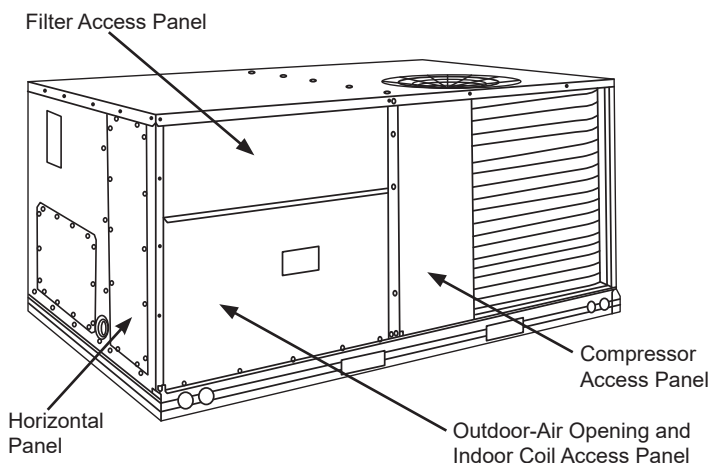

Fig. 2 - Typical Access Panel Locations
Step 2: Remove the existing unit filter access panel. Raise the panel and swing the bottom outward. The panel is now disengaged from the track and can be removed. See Figure 2. Set the filter door aside for re-installation later. Remove the horizontal panel on unit. See Figure 2.
Step 3: Remove the indoor coil access panel and discard. See Figure 2.